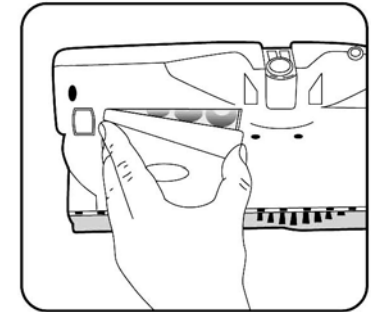

Fig. 20
3. Push in locking tab and lift off battery assembly. (Fig. 20)